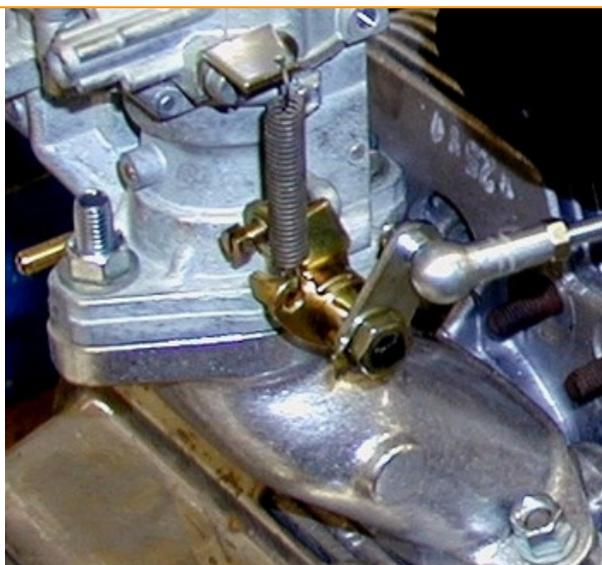

Fig.3
- Install the supplied lever on the left side the way shown (Facing 45° up-and inwards) (Fig.3).
- oben und zur Motormitte (Fig.3).